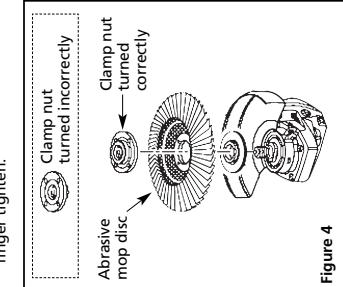

Figure 4
7. To install abrasive mop disc: Thread the clamp nut on the spindle with the flat side of nut facing down. Finger tighten (see Figure 4). 8. Depress the spindle lock button and rotate the wheel clockwise until the spindle locks in position. 9. Securely tighten the clamp nut with the wrench provided. Do not overtighten.